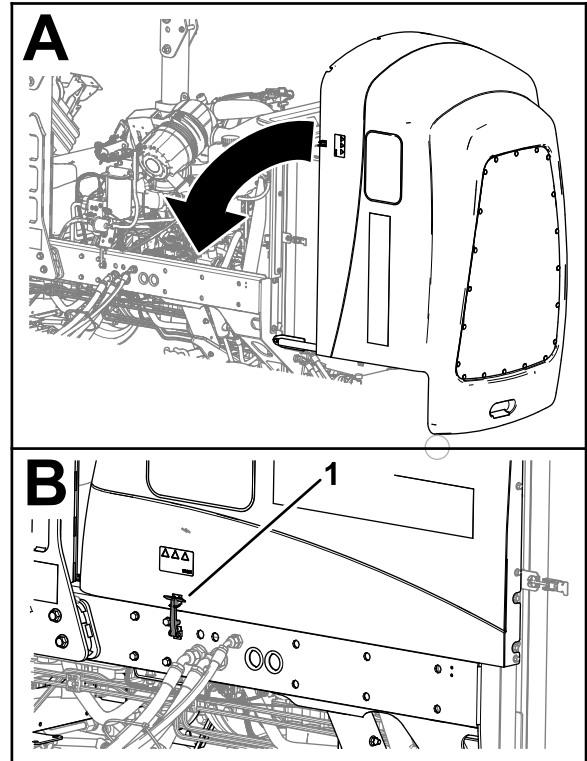

Figure 97
1. Carefully rotate the hood closed (Figure 97).